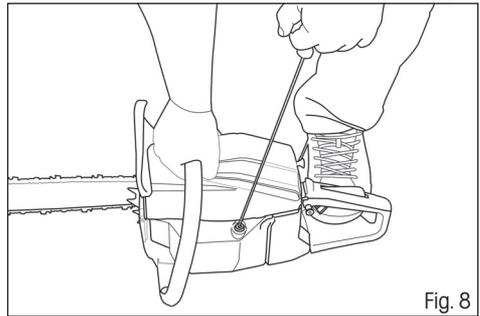

Fig. 8
3. Place the chain saw flat on the ground so that it is stable and pull on the handle of the starting cord until the engine rotates (the engine will show signs of attempting to start) (Fig. 8).
2. Pull on the handle of the starting cord until the engine starts up (Fig. 8). DO NOT USE THE CHOKE!